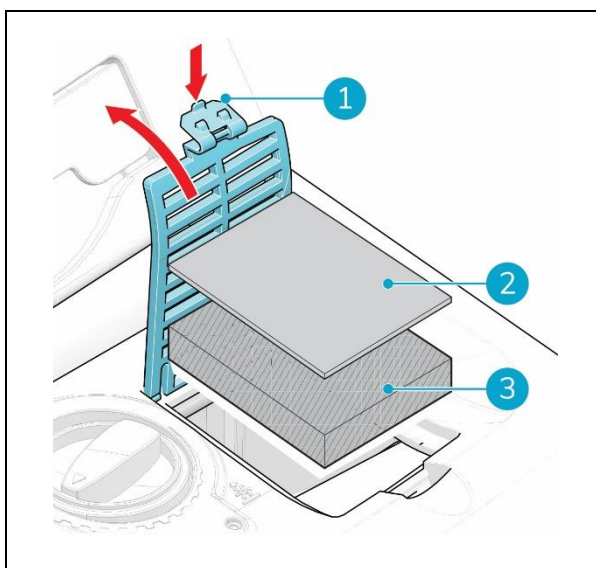

Figure 23
1. Open the cover (Figure 23, pos 1).
2. Remove the old felt air outlet cotton (Figure 23, pos 2).
3. Remove the old felt air outlet (Figure 23, pos 3).